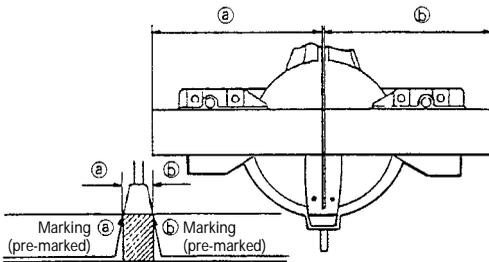

Fig. 16
- (1) As shown in Fig. 16 the width of the saw blade is the width of the cut. Therefore, slide the workpiece to the right (viewed from the operator's position) when length ⑥ is desired, or to the left when length ⑤ is desired.